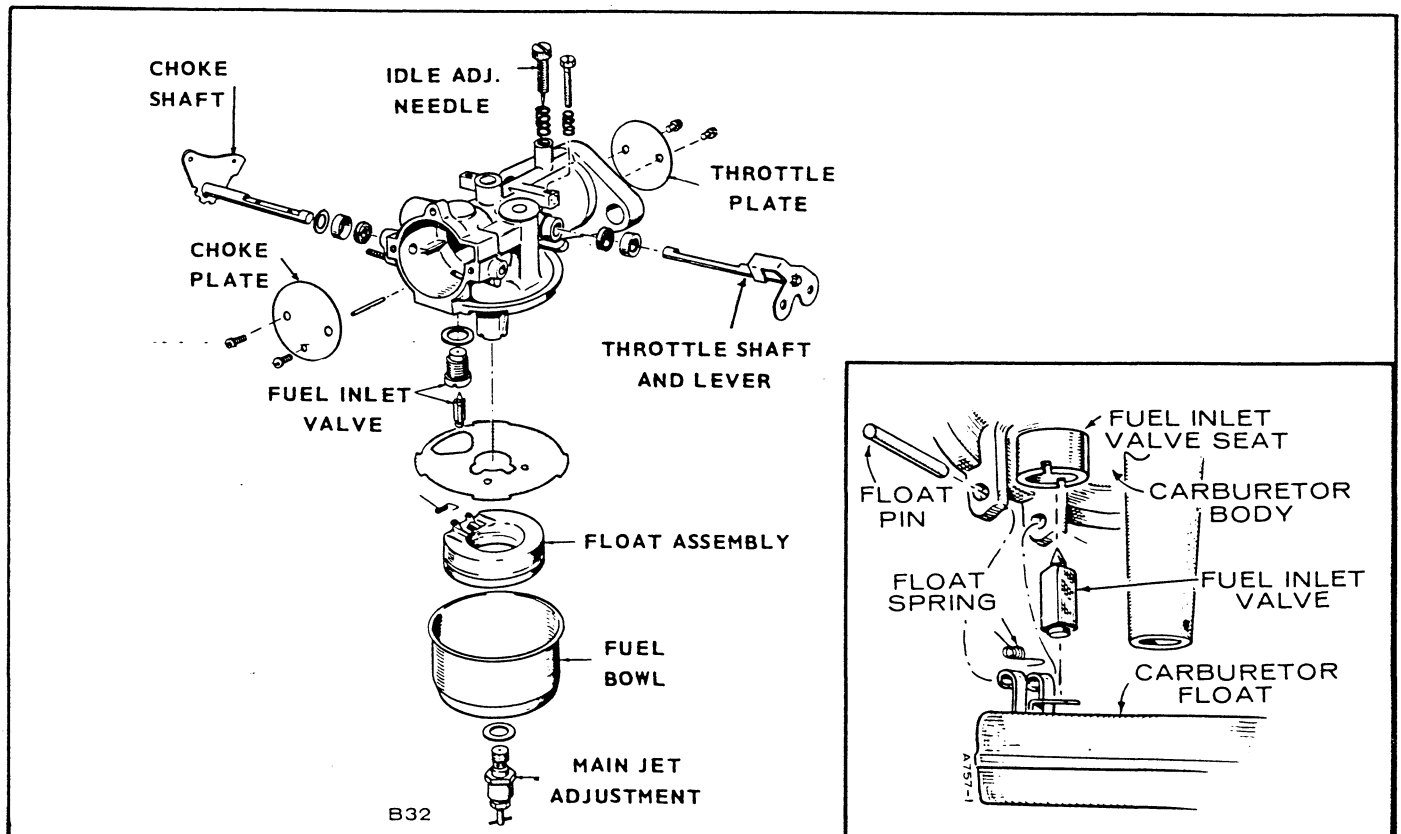

FIGURE 21. CARBURETOR ASSEMBLY
5. Remove the float pin and float. See Figure 21.